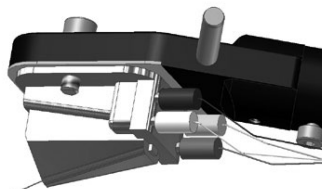

Figure 24
5. Position the Cartridge to the underside of the Cartridge Spacer with the sides of the Cartridge parallel to the sides of the Headshell. Secure the Phono Cartridge Body and Cartridge Spacer to the Headshell with the mounting hardware supplied with the new Phono Cartridge using the appropriate tools. Refer to figure 24.